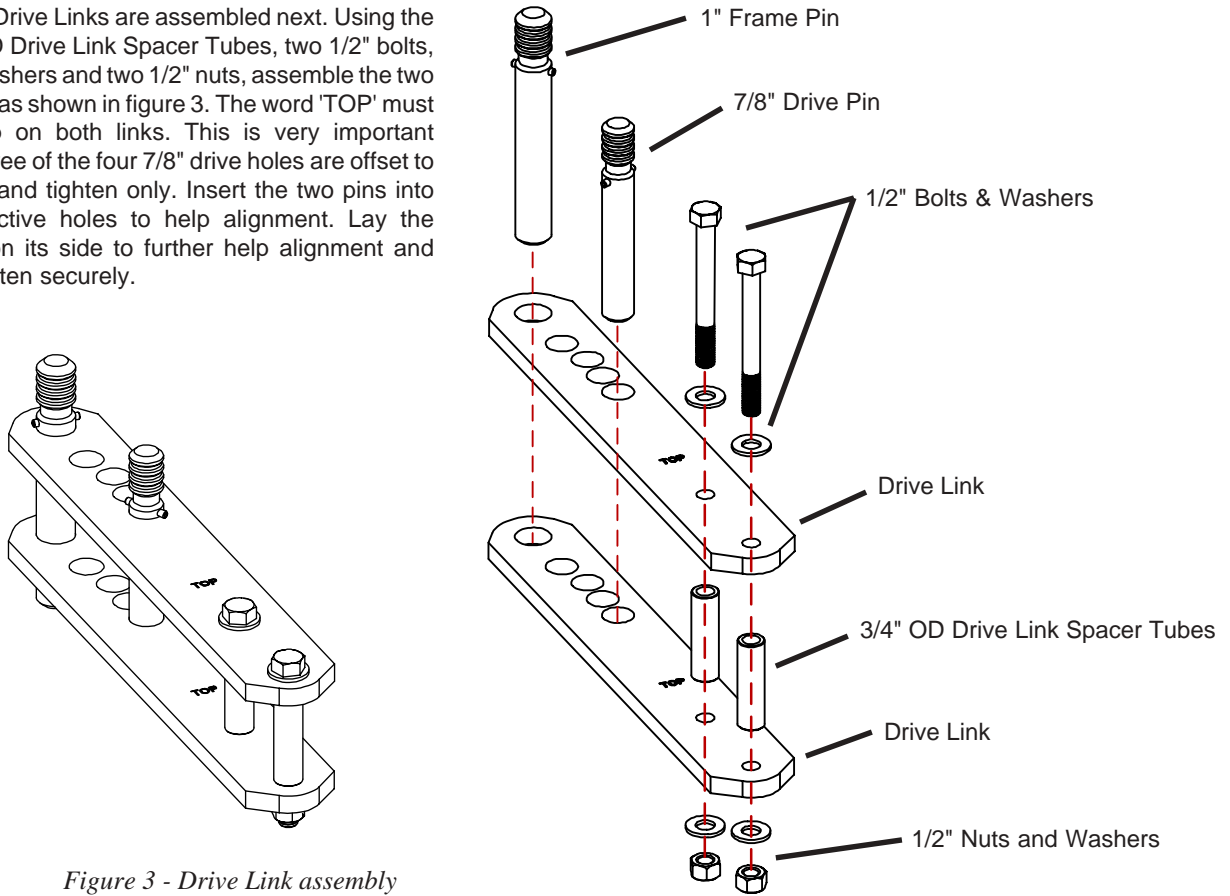

Figure 3 - Drive Link assembly
3) The two Drive Links are assembled next. Using the two 3/4" OD Drive Link Spacer Tubes, two 1/2" bolts, four 1/2" washers and two 1/2" nuts, assemble the two Drive Links as shown in figure 3. The word 'TOP' must be face up on both links. This is very important because three of the four 7/8" drive holes are offset to the right. Hand tighten only. Insert the two pins into their respective holes to help alignment. Lay the assembly on its side to further help alignment and wrench tighten securely.